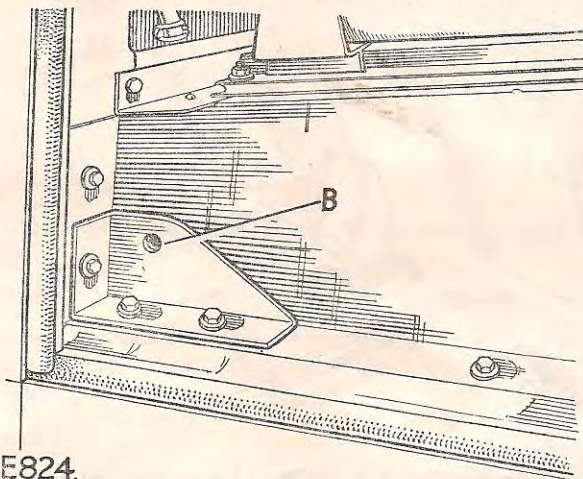

Fig. 13.
3. Secure the sill gusset into the corner position, with the original body fixing bolts as shown in Fig. 13.